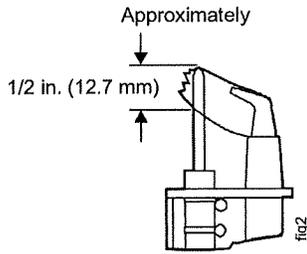

Figure 2: Flame Position
- A flame approximately 1/2 in. (12.7 mm) high must surround the thermocouple tip. See Figure 2.